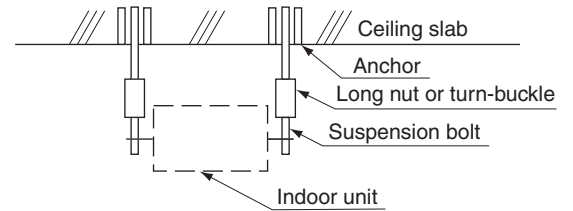

Fig.5
- Install the suspension bolts. (Refer to Fig.5)